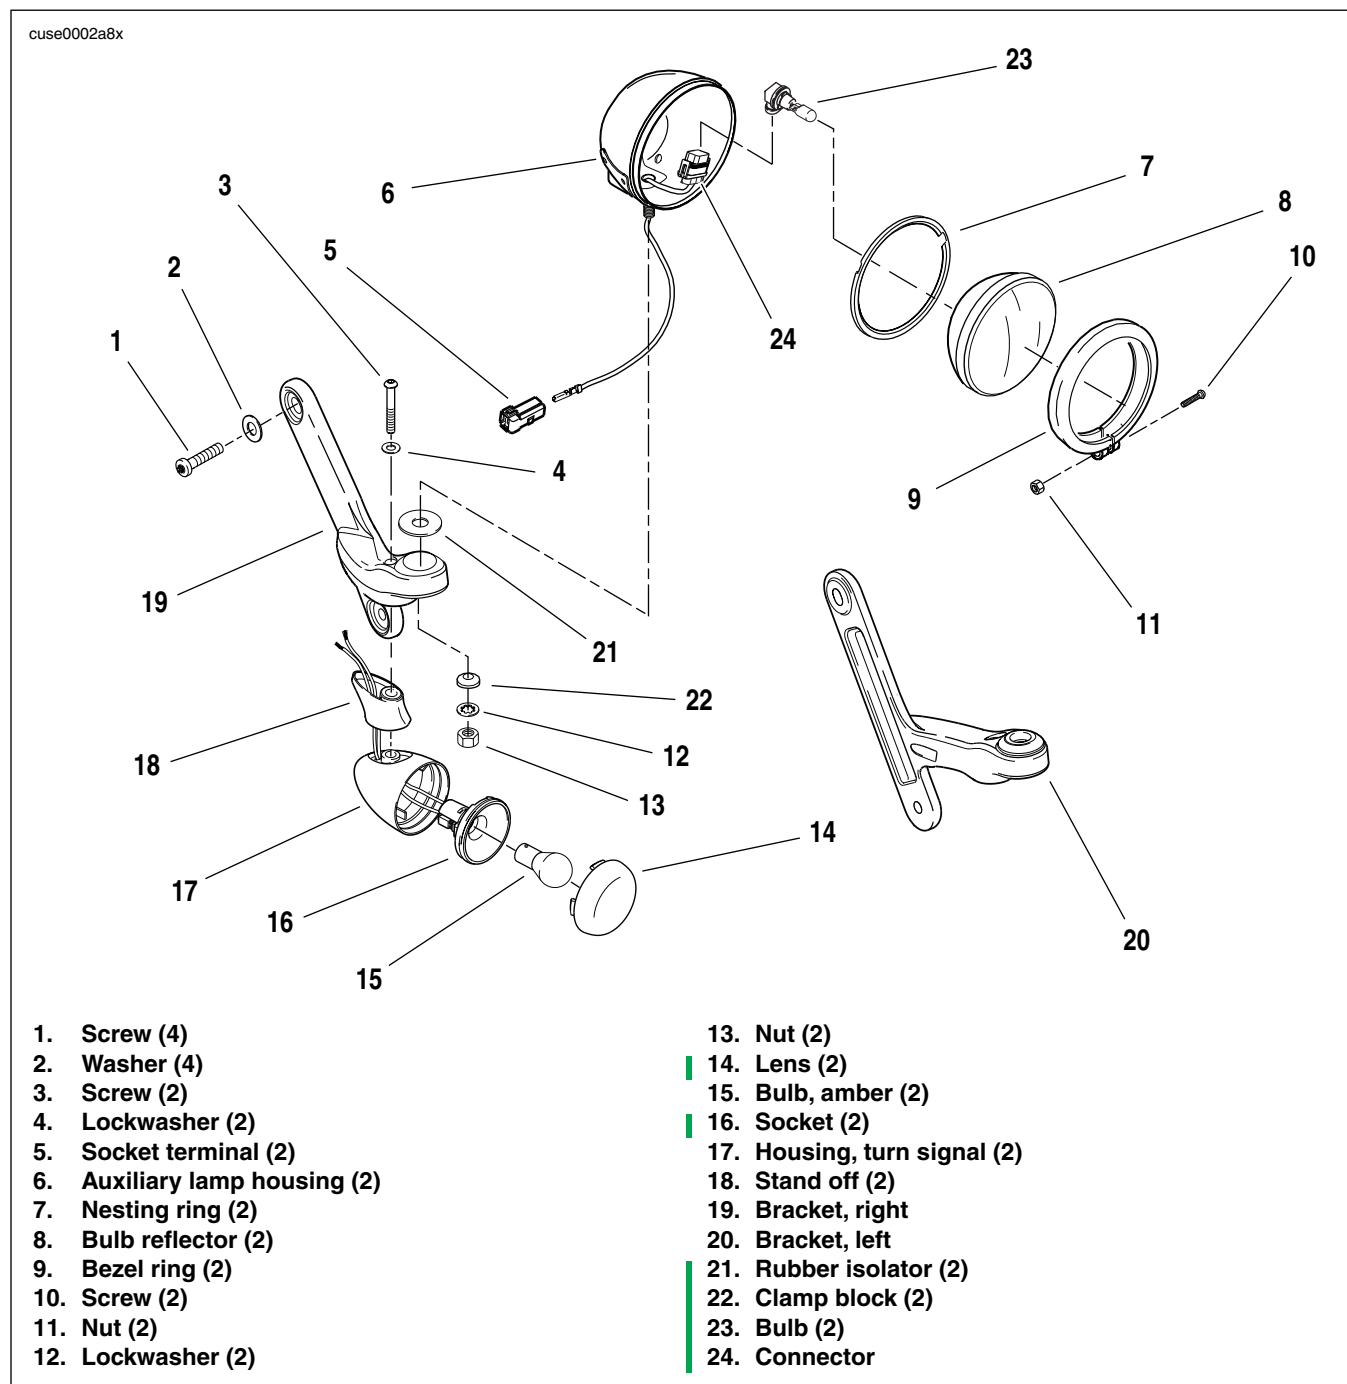
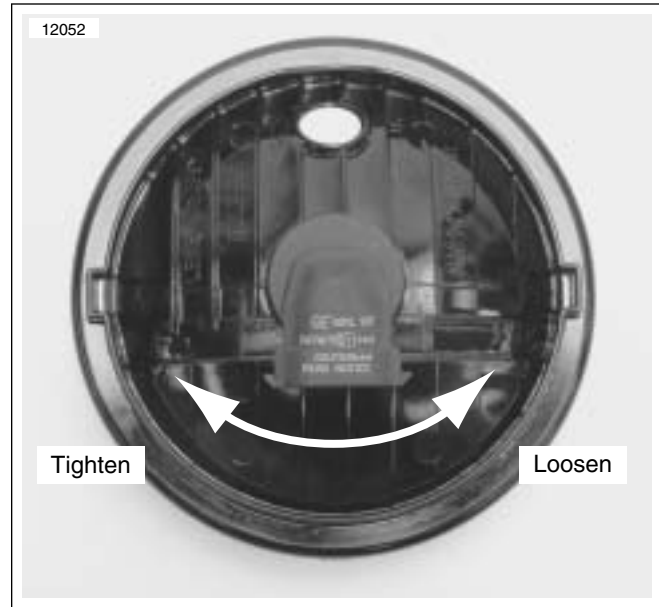

Figure 8-7. Front Turn Signal and Auxiliary Lamp Components
Figure 8-11. Replacing Bulb in Reflector
4. See Figure 8-7. Remove nut (13), lockwasher (12) and clamp block (22) from bottom of auxiliary lamp housing (6).
5. Remove auxiliary lamp assembly and rubber isolator (21) from bracket (19 or 20) while slowly pulling wires through bracket.
2. See Figure 8-7. Remove two screws (1) and washers (2).
1. See Figure 8-7. Align bracket (19 or 20) with mounting holes on front fork assembly.
2. Install washers (2) and screws (1).
3. See Figure 8-7. Position rubber isolator (21) and auxiliary lamp assembly onto auxiliary lamp bracket (19 or 20).
4. Install clamp block (22), lockwasher (12) and nut (13). Tighten nut fingertight only at this time.
1. See Figure 8-7. Holding bulb reflector (8) in place, loosen screw (10) enough to remove bezel ring (9) from lamp housing (6).
2. See Figure 8-7. Unplug connector (24) from socket on back of bulb reflector. This socket is part of bulb assembly (23).
3. Remove nesting ring (7) from reflector.
4. See Figure 8-11. Hold reflector so that socket is facing you. Grasp socket, turn counterclockwise approximately 1/8 turn and remove bulb assembly from reflector. Discard bulb assembly.
7. See Figure 8-7. Plug connector (24) into socket in reflector (8).
8. Mount reflector into lamp housing (6), fit bezel ring (9) onto assembly and secure with screw (10) and nut (11).